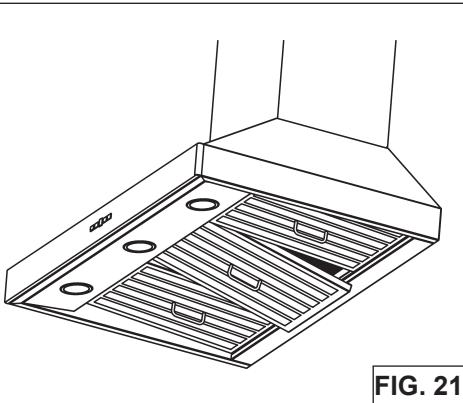

FIG. 21
1. To remove the GREASE filter, (Fig.21) push the filter towards the front so that it clears the filter channel, then pull down on the handle to disengage the filter from the hood. Tilt the filter downward and remove.